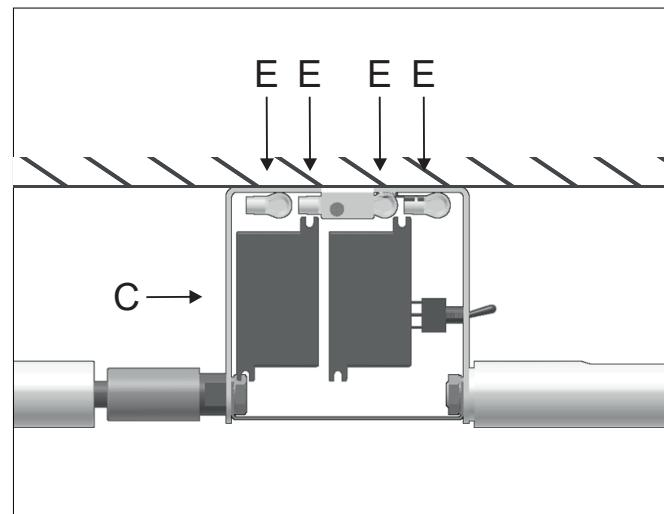

Figure 6
- 6 - Put the forbox [E] with the connections between the drivers [C] and the wall. Figure 6.